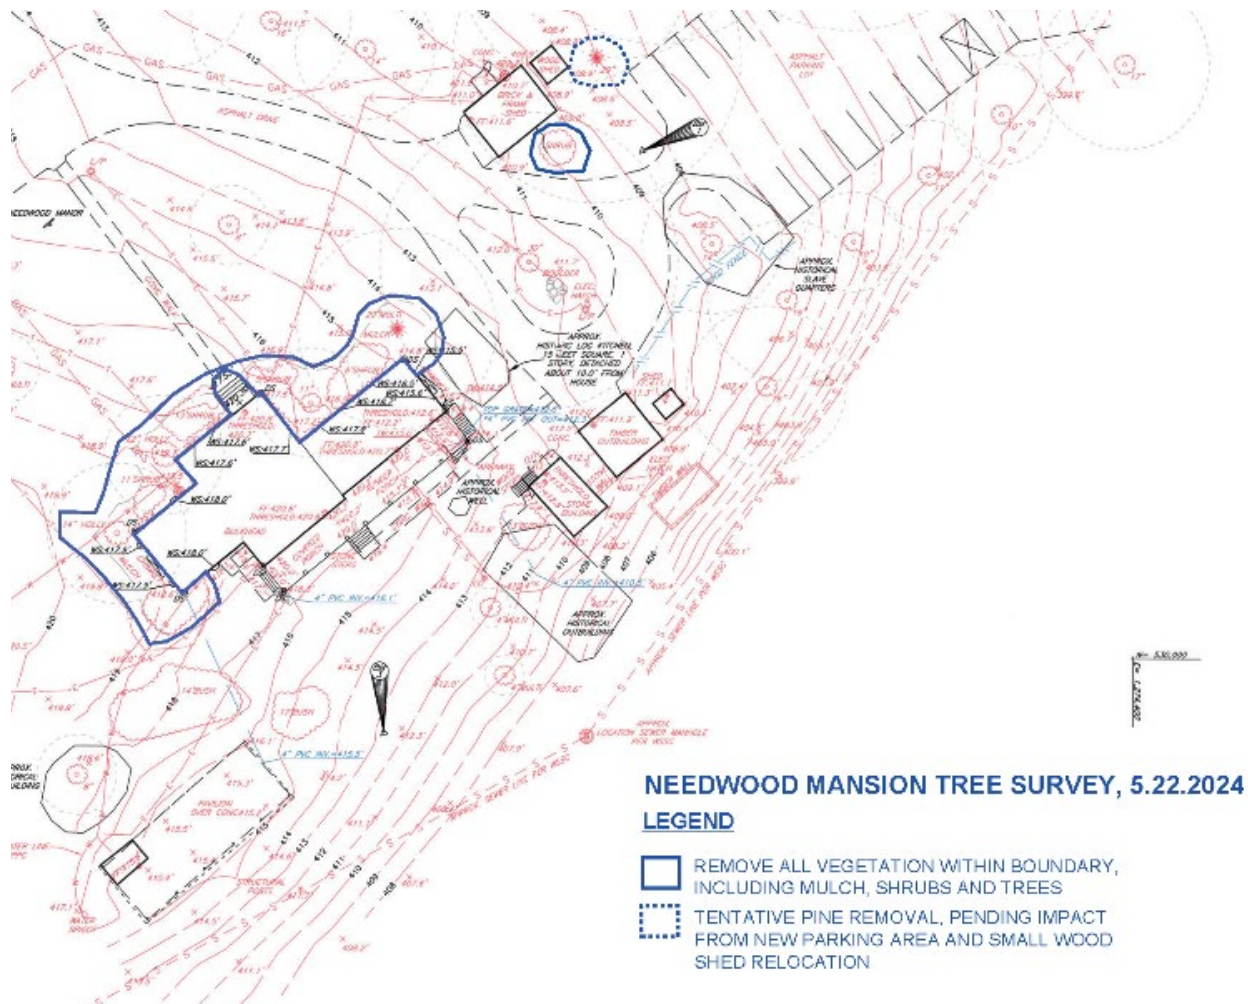

Figure 6: The tree survey plan for the subject property with proposed removals circled in blue.
The work will provide grading and landscape alterations, including the removal of shrubs and trees, to reduce water infiltration into the basement (**Figure 6**). New perimeter
Staff supports the removal of all the trees, vegetation, and mulch at the front and side sides of the house to accommodate the installation of a trench drain and finds the work meets both Chapter 24A-8(b) and the applicable *Standards*. According to the tree survey (**Figure 6**), the largest of the trees is a holly with a diameter at breast height of 14 inches, so none of the vegetation is a longtime established visual feature. The removals are necessary to keep moisture away from the masonry building and to accommodate the trench to be dug to improve drainage around the foundation.
- Vegetation removal (**Figure 6**).